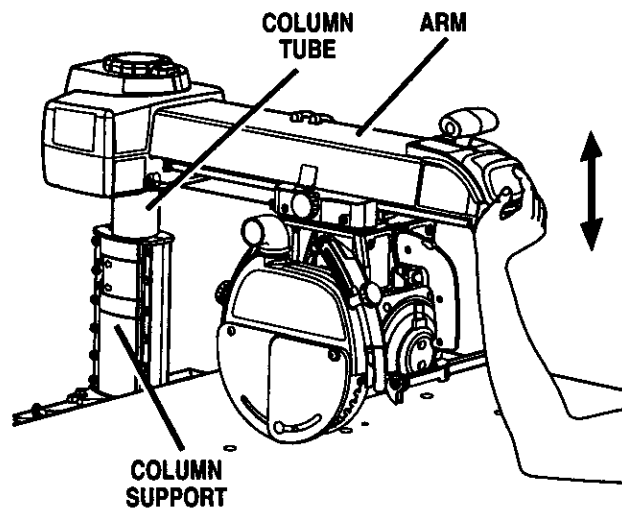

Fig. 20A
See Figures 20A - 20D.
- **Elevation check:** To check the elevation movement, place your hand under the front of the radial arm. Press upward on the radial arm. There should be minimal play between the column tube and the column support. The whole assembly should move as one. See Figure 20A.